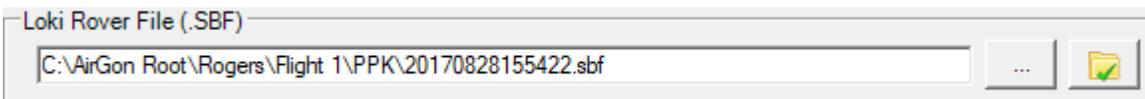

Figure 12 - Select Rover (Loki) File
- Under the field **Loki Rover File** (Figure 12), navigate to and select the sbf file on the Loki device. If you know which sbf file goes with the flight you are importing, you can browse to the file location and select the file. If you have multiple sbf files from different flights, use the Auto Find option. You will need to navigate to the containing folder, then ASPSuite picks the correct sbf file for your images. *Note: Phantom 4 RTK, navigate to .obs file and select. If the .MRK file is in the same folder, ASPSuite will auto-select.*